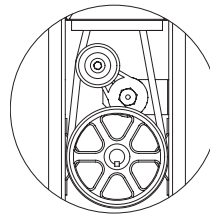

Figure 3
7. Install the belt tightener base to the support angles as shown in Figure 3 and 4 using the 1/4 inch bolts and nuts provided. Hand-tighten only at this time.
11. Attach the belt-tightener to the belt tightener base as shown in figure 3 and 4 using the 3/8 inch bolt and lock washer. Hand-tighten only at this time.